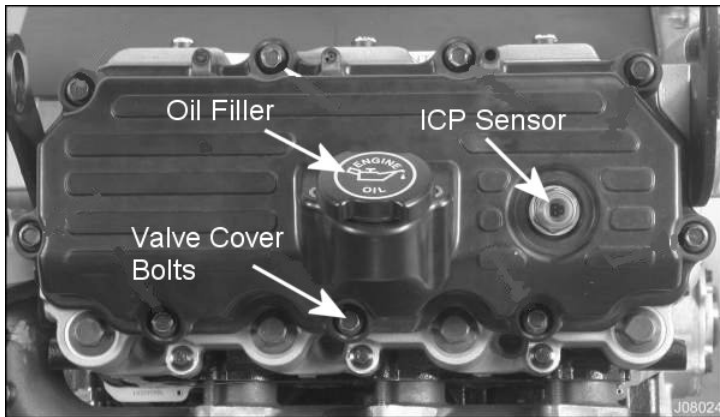

Figure 1 Valve Cover (Right Shown)
14. Remove right valve cover mount bolts (9 M6 x 35M bolts) (Figure 1).